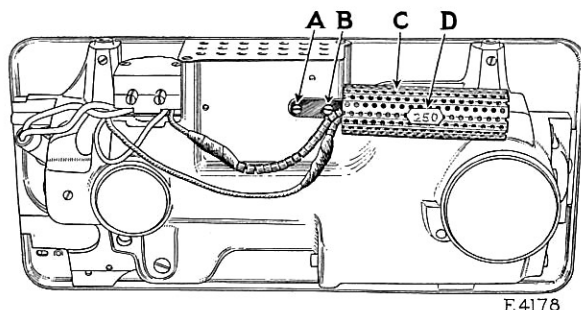

FIG. 31. RESISTANCE UNIT FOR SINGERLIGHT
When Machine 101-2 is furnished for operation on a voltage of more than 110 volts, a resistance unit is provided with the Singerlight. If this resistance is not connected as shown in Fig. 31 the Singerlight cannot be used.
machine base by means of the two screws (A and B), having the voltage plate (D) as shown in Fig. 31.